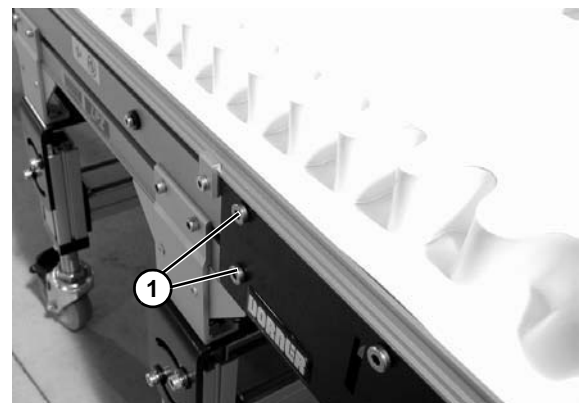

Figure 45
4. Re-tighten the head plate fastening screws (Figure 45, item 1) with a 5 mm hex-key wrench to 100 in-lb (12 Nm).